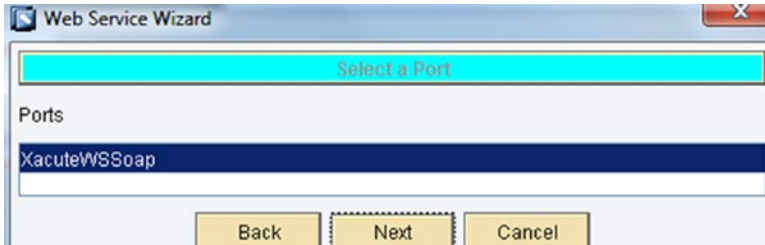

Figure 6-80. Port selection in Web Service
3. In the next view, the required port needs to be selected from the available ports. See Figure 6-80.